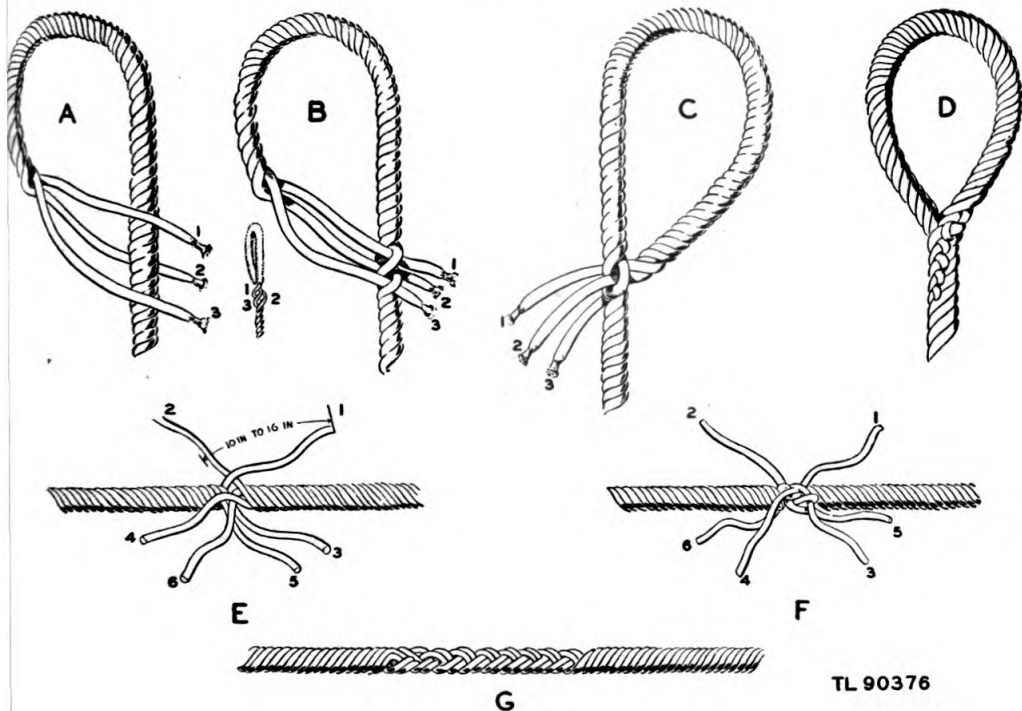

Figure 3.
c. Eye splice.—The eye splice * * * in figure 3-A-D.
(1) Untwist the strands * * * the eye required. Be certain that the middle strand 2 is placed under the rope (fig. 3-A).
(2) (Superseded.) Tuck strand 1 under one of the main strands of the rope at the point where weaving is to start (fig. 3-B).
(3) (Superseded.) Place strand 2 behind the rope (fig. 3-A).
(4) (Superseded.) Tuck strand 3 under the next main strand, directly below strand 1 (fig. 3-B).
(5) (Added.) Turn the rope over, and tuck strand 2 under the third main strand of the rope. This brings strand 2 through the main rope between strands 1 and 3 (fig. 3-B).
(e) Roll the splice between two flat surfaces under pressure as between foot and floor, and trim off surplus ends flush with the outside strands. The completed splice is shown in figure 3-D.
d. Short straight splice.—Short straight splice * * * of the rope. See figure 3-E-G.
(1) Untwist the strands * * * 10 to 16 inches. Butt the ends of the rope tightly together as in figure 3-E laying the strands * * * locking the strand.
(b) The operation just explained is repeated with the even-numbered strands, producing an arrangement similar to that shown in figure 3-F. Continue the interweaving on alternate sides until its total length extends a distance of 4 inches for 1/4-inch rope. Add another tuck for each next larger standard size rope.
(3) (Superseded.) Roll the splice between two flat surfaces under pressure (between the foot and floor), and trim off the surplus ends flush with the outside strands. The completed splice is shown in figure 3-G.
(4) Rescinded.
(5) Rescinded.